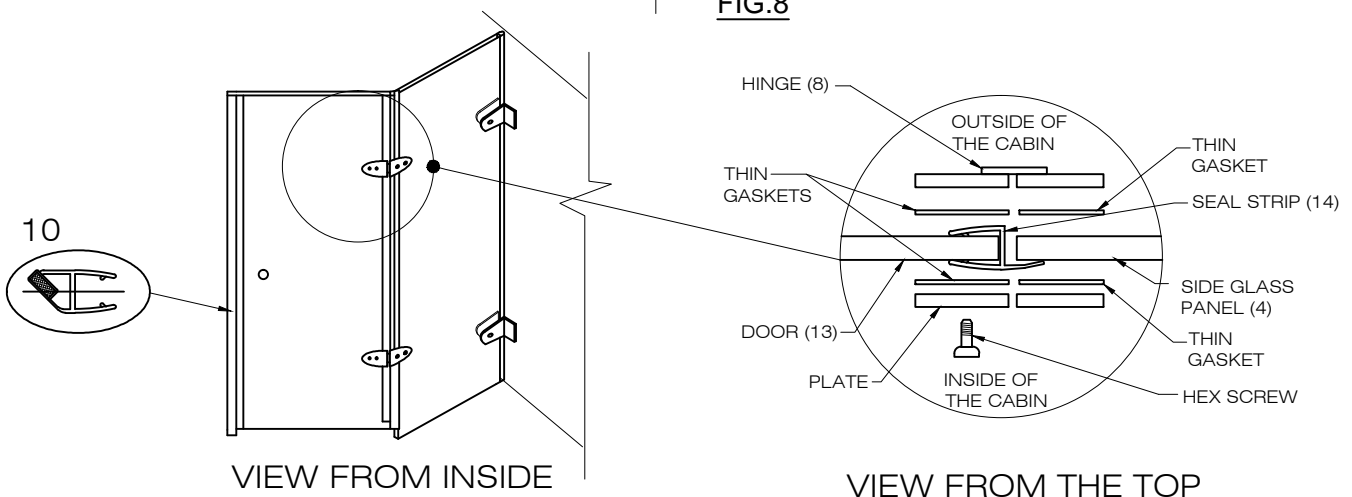

FIG.8A
5. Install the hinges as illustrated [SEE FIG.8A] Use the hex key supplied.